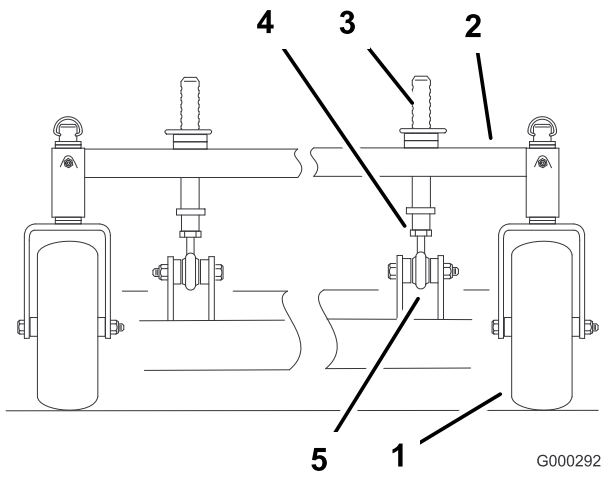

Figure 75
1. To change the front-to-rear pitch, the front height-of-cut posts can be adjusted (Figure 75).
2. To raise the front of the deck, loosen jam nut and rotate the front pin clockwise (Figure 75).
3. To lower the front of the deck, loosen jam nut and rotate the front pin counter clockwise (Figure 75).
6. Tighten the jam nuts (Figure 75).